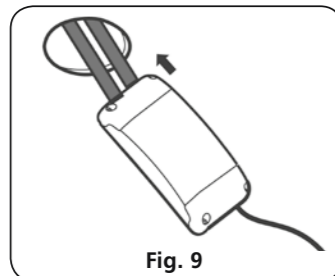

Fig. 9
- Feed the wires/cables followed by the power unit through the 65mm dia. ceiling hole (see Fig.9).